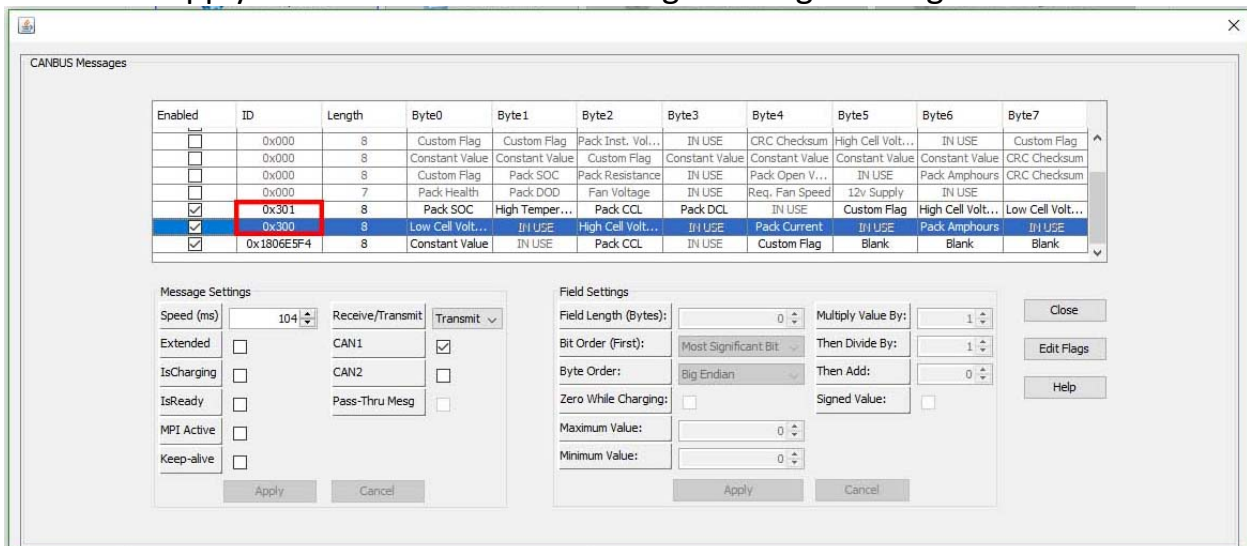

Fig. 5
1. With the CANBUS messages dialog box open, verify that the checkbox next to both messages 0x300 and 0x301 are checked and enabled. (Fig. 5) If the two ID's are not checked, check the checkbox and click on the "Apply" button within the "Message Settings" dialog.